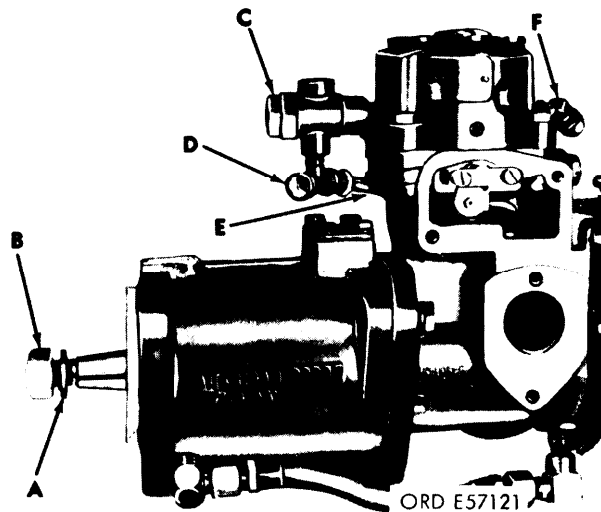
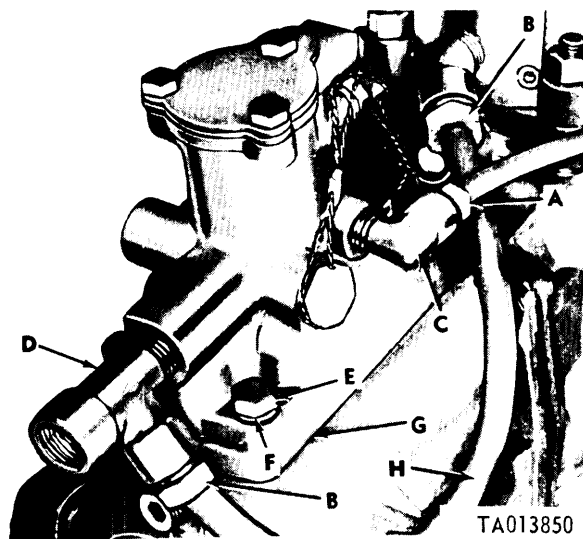
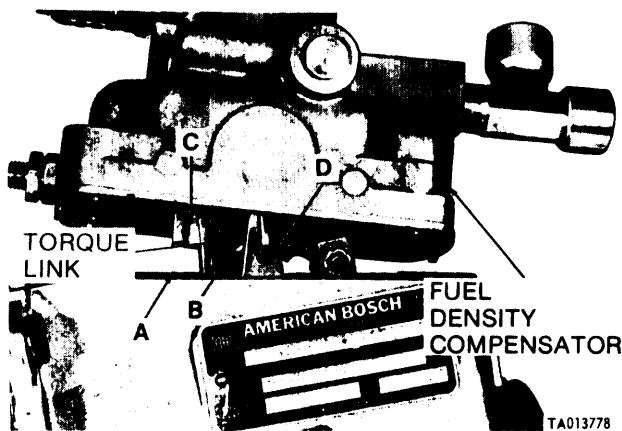

Figure 3-152. Installing overflow valve assembly
Figure 3-153. Installing fuel density compensator assembly.
Figure 3-155. Assembling fuel density compensator fuel stop plates (Code A pumps).
b. Installation. Refer to figure 3-152. Install lockwasher (A) and stet nut (B) on advance unit shaft. Tighten nut finger tight. Install overflow valve assembly (C) in position on hydraulic head.
3-46. Installation of Fuel Density Compensator. a. Installation of Fuel Density Compensator (Code B, C, D, E and F pumps). Refer to figure 3-153. Position a new mounting gasket (G) on governor housing. Position fuel density compensator on governor housing and secure with four 1/4 x 1 1/4 capscrews (E) and four 1/4 inch lockwashers (F). Torque tighten screws 50-60 inch-pounds. Install density compensator to overflow valve tubing (E, fig. 3-152). Connect tubing (A) to elbow (C). Install tubing (H) to tee (D) and elbow in hydraulic head (B).
b. *Installation of Fuel Density Compensator (Code A Pumps).* Refer to figure 3-155, Position a new mounting gasket (A) on governor housing. Engage dovetail in torque link stop (B) with dovetails on guide (C) and compensator plate (D). All divetails must be properly engaged. Refer to a above and figure 3-153 to complete installation of compensator on injection pump.